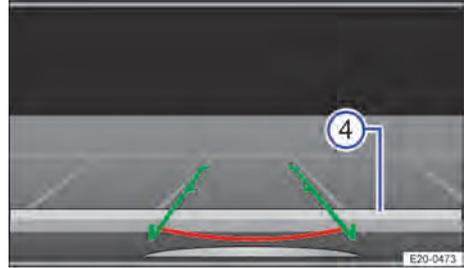

Fig. 122 Infotainment system screen display: Align the vehicle in the parking space.
4. Stop when the horizontal line reaches the rear limit → Fig. 122 ④.